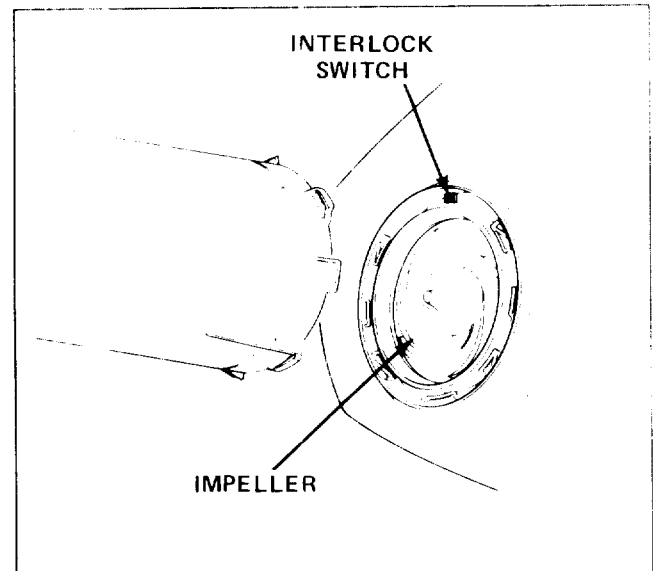

Figure 4
3. Insert upper tube into blower inlet and rotate clockwise until locking tabs are fully engaged (upper tube locks with a snapping action) (Fig. 4). Angled end of lower tube should be positioned downward.